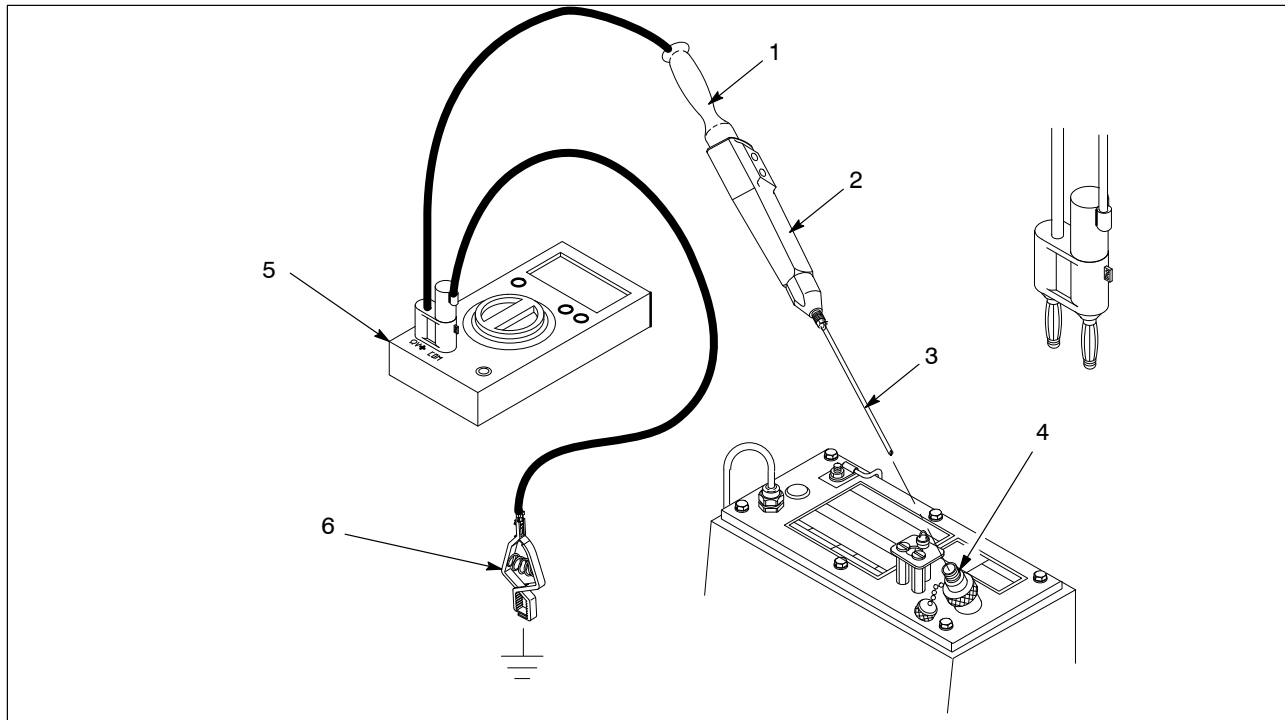

Figure 7 Measuring Output Voltage of Cable-Fed Electrostatic Power Supplies
- a. See Figure 7. If installed, remove the ball extension from the probe (2). Clean the cable extension (3).
- b. Attach the BNC/ground cable clip (6) to a true earth ground.
- c. Insert the cable extension all the way into the cable well (4). Make sure the end of the cable makes contact with the high-voltage connection in the well.
- d. Hold onto the probe handle (1) with your bare hand.
- f. When the DMM (5) display stabilizes record both the voltage reading and the  $\mu\text{A}$  reading displayed on the power unit (a record sheet is provided at the end of this manual).